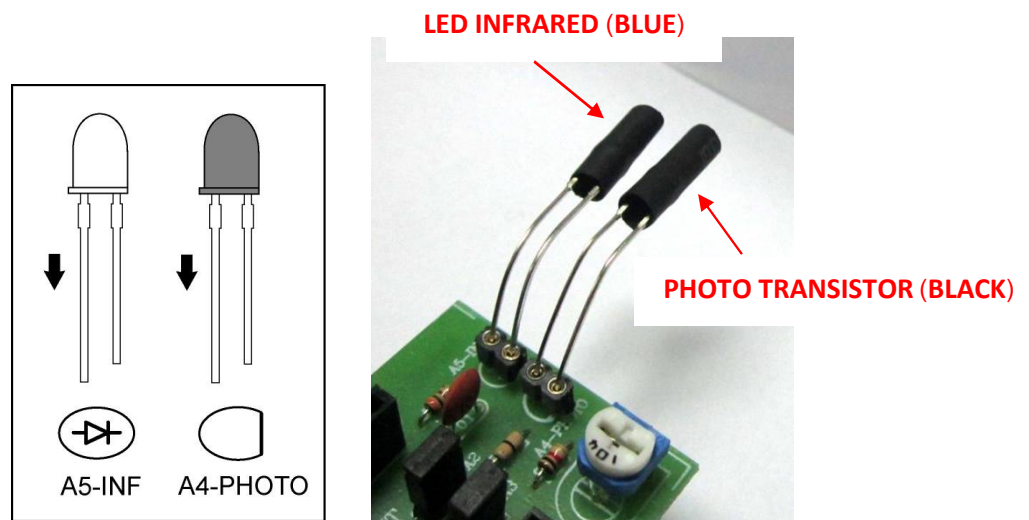

Figure 15. Insert Infrared LED and Photo Transistor
6. Insert Infrared LED at INF point and Photo Transistor at PHOTO point (please see Figure 15). Connect LED TEST with CON3 point. The pin of resistor must be connected with G point and the pin of LED TEST must be connected with A1. Open LAB1418-2 in folder "FK1418". Download LAB1418-2 program to Arduino board. Adjust the value of resistor until LED TEST is light-off. Hide the front side of Infrared Receiver Module with white paper. The gap between the Infrared Receiver Module and the paper is 1 inch approximately. To test the Infrared circuit if it is working, when hiding it with white paper, LED TEST must be light-on but if removing the white paper, LED TEST is light-off.